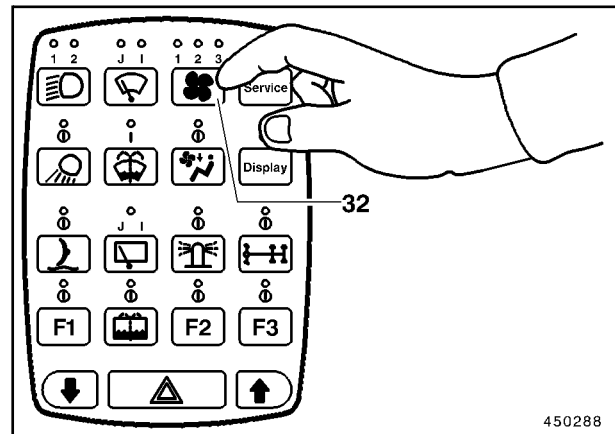

Fig. 3
- The blower for heating and ventilation is switched on with key (32, Fig. 3).